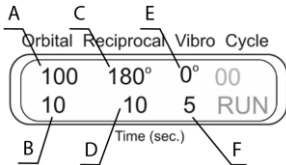
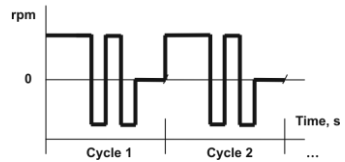

Figure 8
Figure 9
6.9.3 **3D orbital + 3D reciprocal + pause** (figure 8). Set the speed (A, 1–100 rpm) and time (B, 1–250 s) of 3D orbital motion. Set the turning angle (C, 0–360°) and time (D, 1–250 s) for 3D reciprocal motion. Set the angle of (E) 3D vibro type motion to zero. Set the time for 3D vibro motion (F, 1–5 s), this is the duration of the pause. Figure 9 shows 3D orbital and 3D reciprocal motions and pause run one after another in cycles.